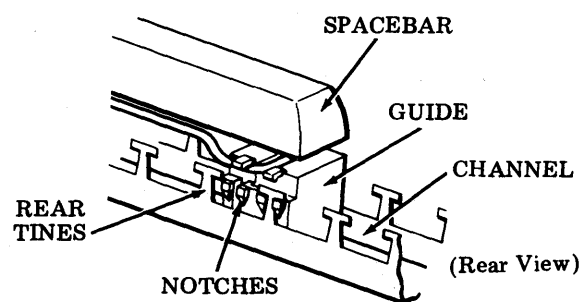

Fig. 3—Spacebar Removal
- (b) Disengage the two rear tines (one at each end of spacebar) with a small screwdriver while pulling the spacebar up and toward the front (Fig. 3).